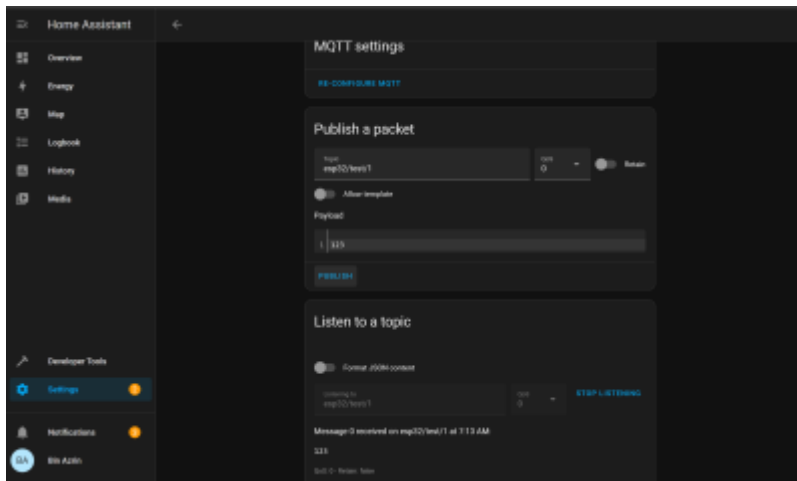

Fig 22: Testing whether the MQTT broker is functioning, source: own image – Ainul Danish
- **Testing the broker:** Any sample topic was added in the publish and listening field (ensure that the topic is the same in both the fields). Proceeded with clicking on Start Listening. In the payload field, any message was typed in and clicked on Publish. The same message received and appearing at the bottom (Fig 22) confirms the working of the broker.